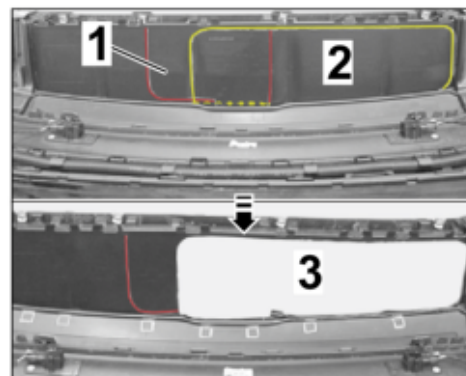

Figure 6
1.9.2 Mark the cut-out for the ball hitch (removable – USA) at the impression on the inside of the rear apron ⇒ Figure 6 **-top-**.
1.9.3 Carefully make the cut-out along the marking ⇒ Figure 6 **-bottom-**.